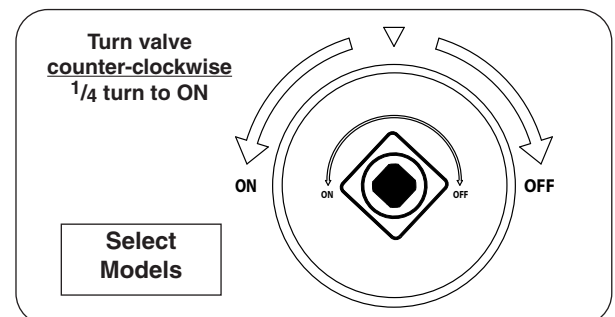

Fig. 37-2 ON/OFF key valve detail
3. If equipped, turn the ON/OFF key valve counter-clockwise a $\frac{1}{4}$ turn to the **ON** position (Fig. 37-2).